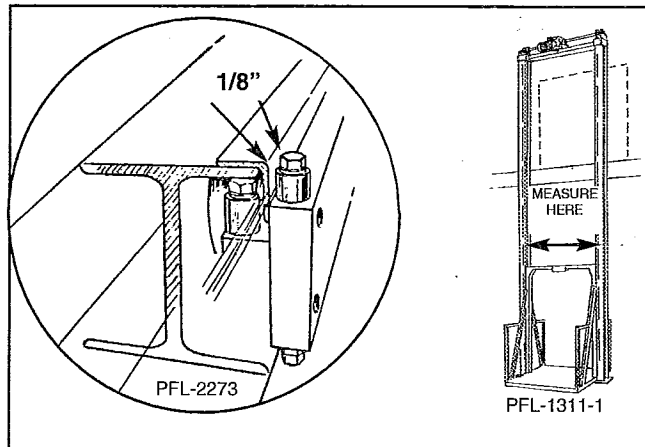

Figure 13
1. Alignment of the main columns is important. Refer to the general arrangement drawing for guide angle to guide angle dimension. Measure between the columns at several points and make sure to hold that dimension to the top of the unit. See Figure 13.
2. Make sure carriage is level. Double-check the guide angle to guide angle dimension to carriage width by measuring the space between the guide roller on the wheelblocks and the guide angle of the columns. There should be a gap of approximately 1/8". See Figures 13, 14.
Check clearance between wide flange columns and wheelblock shoes. See Figure 13. Sometimes wheelblock shoes may rub slightly. If so, use flat washers to shim shoes out not more than 3/16th inch.